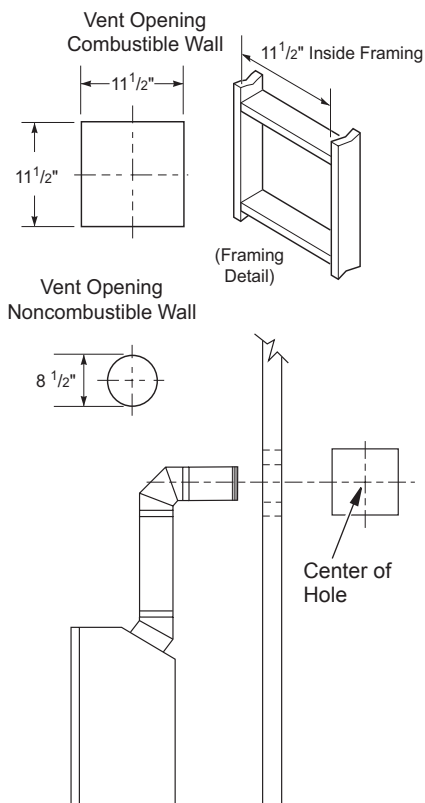
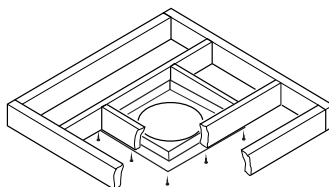

Figure 9 - Vent Opening Requirements
Figure 20 - Installing Firestop
5. Carefully determine location where vent pipe assembly will penetrate outside wall. Center of hole should line up with center line of horizontal vent pipe. Mark wall for a 11 1/2" x 11 1/2" square hole. Cut and frame square hole in exterior wall where vent will be terminated. If wall being penetrated is constructed of noncombustible material, such as masonry block or concrete, a 8 1/2" hole with zero clearance is acceptable (see Figure 9).
should be framed to 11 1/2" x 11 1/2" inside dimensions, as shown in Figure 9 on page 10 using framing lumber the same size as ceiling joists. If area above ceiling is an insulated ceiling or an attic, nail firestop from top side. This prevents loose insulation from falling into required clearance space. If area above ceiling is a living space, install firestop below framed hole. Firestop should be installed with no less than three nails per side (see Figure 20).
3. Cut a hole in roof using the locating hole as a center point. (Cover any exposed open vent pipes before cutting hole in roof.) The 11 1/2" x 11 1/2" hole must be measured on the horizontal; actual length may be larger depending on pitch of roof. There must be a 1" clearance from vent pipe to combustible materials. Frame opening as shown in Figure 9, page 10.